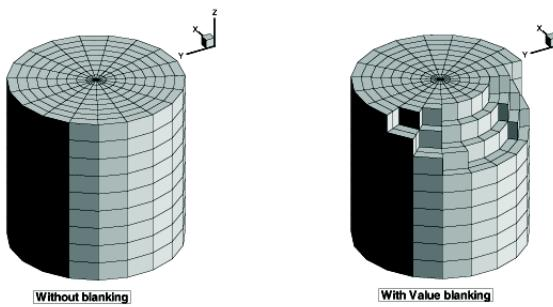

Figure 7-4. Examples of plots where **Surfaces to Plot** has been set to “Exposed Cell Faces” with (left) and without (right) value-blanking.
- **Exposed Cell Faces (default)** - This setting is similar to the “Boundary Cell Faces” setting, unless value blanking is active. When value blanking is used, the outer cell faces between blanked and non-blanked cells and the outer surfaces of the data are drawn. Figure 7-4 shows a plot of a volume zone with Surfaces to Plot set to “Exposed Cell Faces” with and without value blanking. See Chapter 19: “Blanking” for information on working with Blanking.